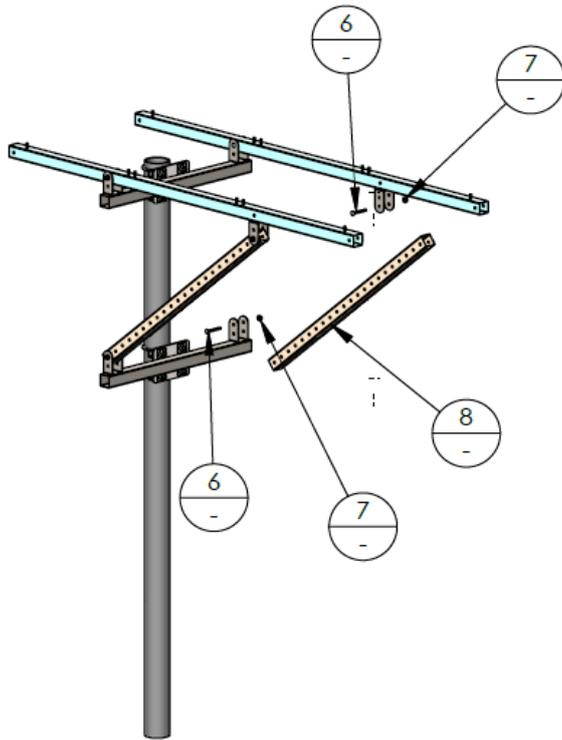

Figure 4.21: Assemble module rails and tilt legs to crossmembers.
Module rail and tilt leg: Attach module rail (5) to top crossmember using carriage bolts (6) and theft-deterrent nuts (7). Then attach module rail to tilt leg(8). Finally attach tilt leg to lower crossmember bracket. Confirm correct orientation with compass and confirm correct tilt angle with inclinometer (protractor). Tighten all theft deterring fasteners. Repeat for the second module rail. See Figure 4.21.